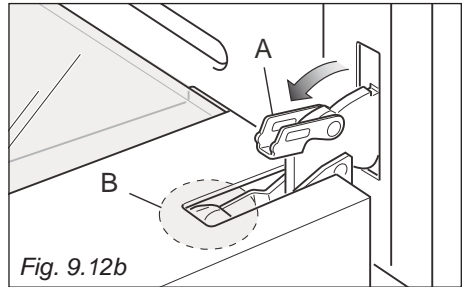

Fig. 9.12b
- Open the lever "A" completely on the left and right hinges (fig. 9.12b).
- Gently close the door (until left and right hinge levers "A" are hooked to part "B" of the door (figs. 9.12b, 9.12c).
- Gently close the door until left and right hinge levers "A" are hooked to part "B" of the door (figs. 9.12b, 9.12c).